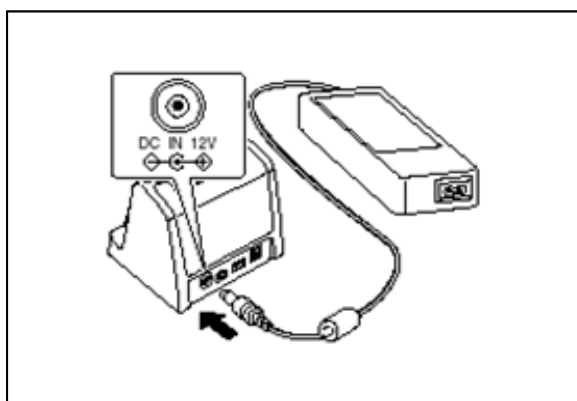

Figure 4.1
1. Plug the AC adaptor into the AC adaptor jack where “DCIN12V” is printed by on the back of the cradle. See Figure 4.1.